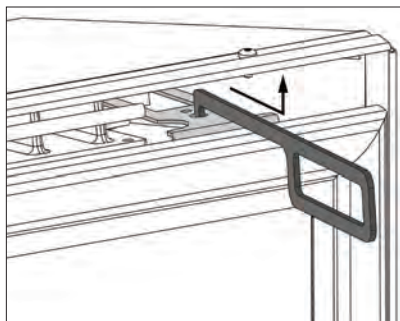
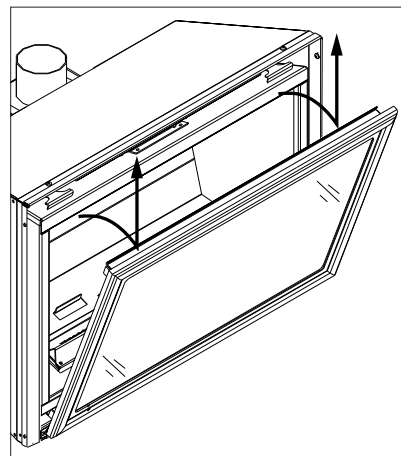

Figure 10: Door Release.
Figure 11: Door Removal.
Remove the glass door by placing the hooked end of the door release tool in the hole on the door latch mechanism (see Figure 10) and pulling the latch out then up over the lip on the door. When the two (2) latches have been released, tilt the door forward and then lift up to unhook the bottom door tabs (see Figure 11).